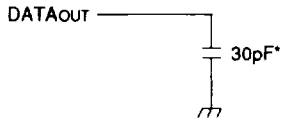

Figure 1. Output Load
Output Load	See Figures 1 & 2
1. Transition is measured ±500mV from low or high impedance voltage with load (Figures 1 and 2).
1. Transition is measured $\pm 500\text{mV}$ from low or high impedance voltage with load (Figures 1 and 2).